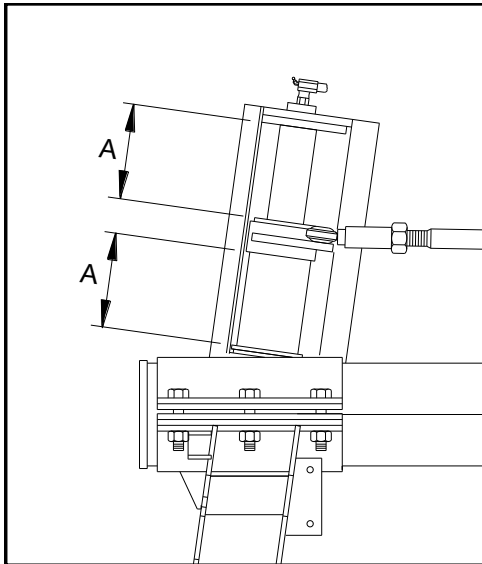

FIG 7.69
1. Adjust Hydra-Hug® suspension until dimensions above and below steering arm are equal (fig. 7.69, dim. A — See page XXX).